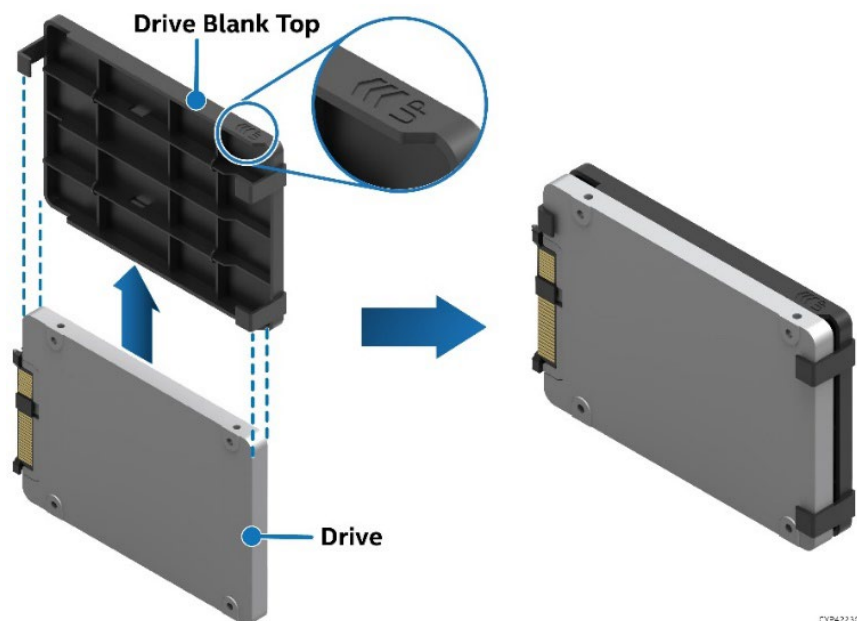

Figure 38. Attaching the Drive Blank to 7 mm SSD
4. Slide the SSD drive into SSD mounting bracket. See Figure 38.